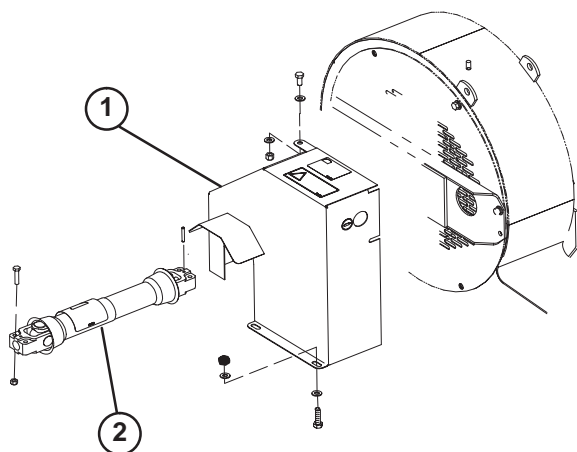

Figure 5
1. Remove (3) capscrews, (6) washers and (3) nuts securing belt guard to blower frame (Fig. 5).